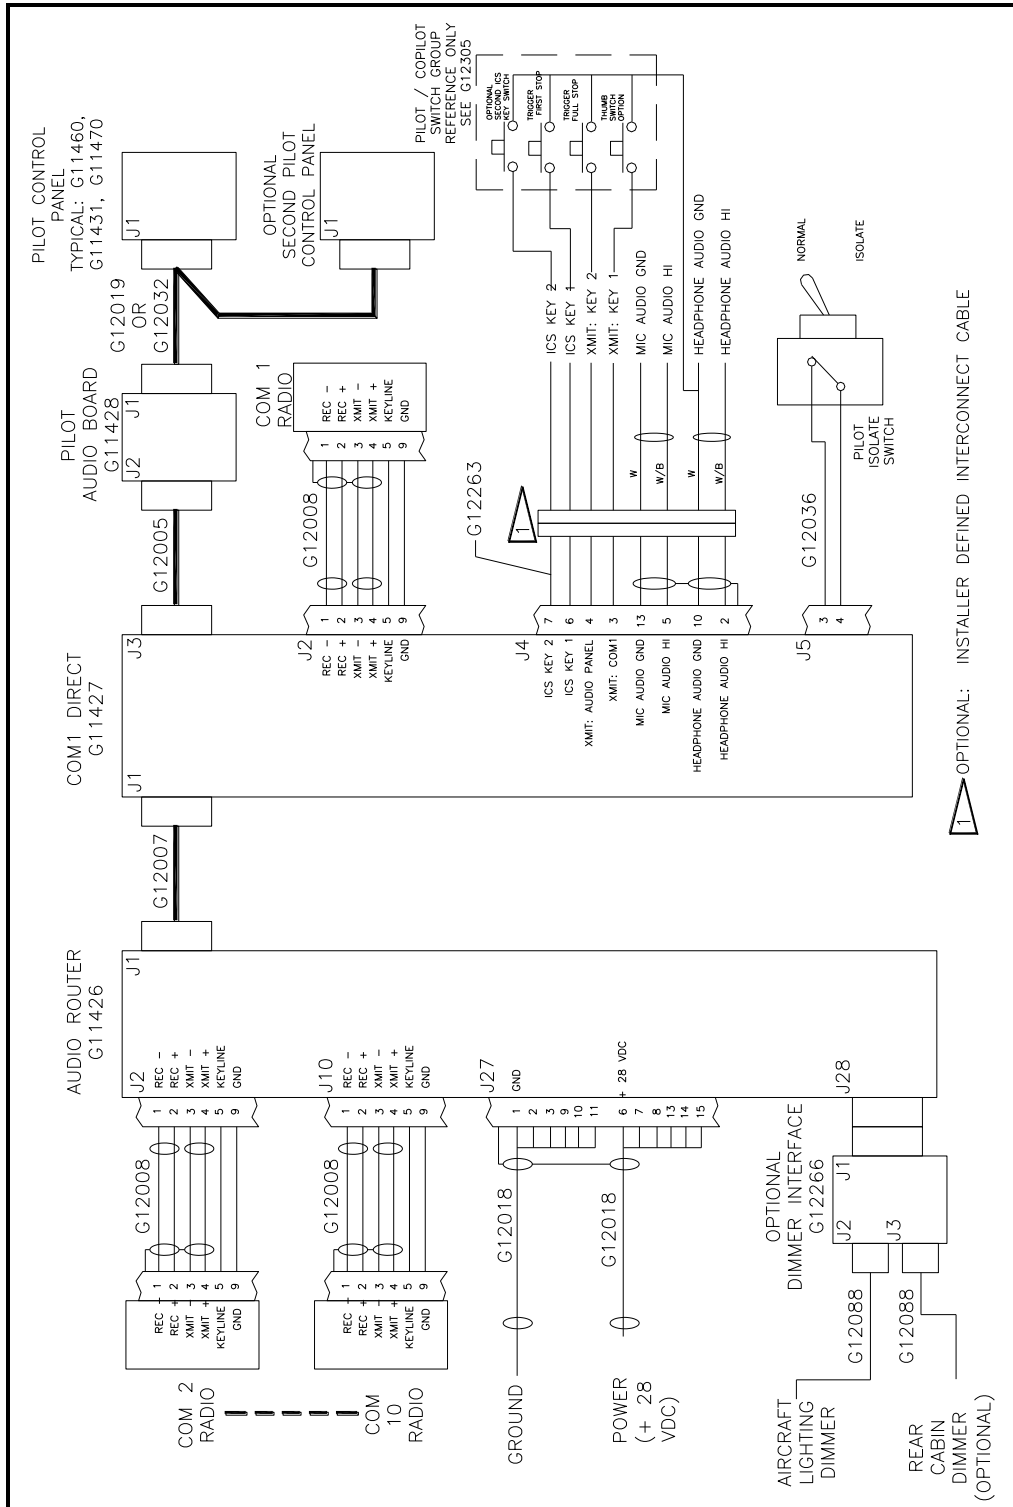

Figure 25: Audio System Router/Com1 Direct Hookup
- a. Refer to Figure 23 thru Figure 25 for the Cable Part Numbers associated with a general Analog Audio System installation.